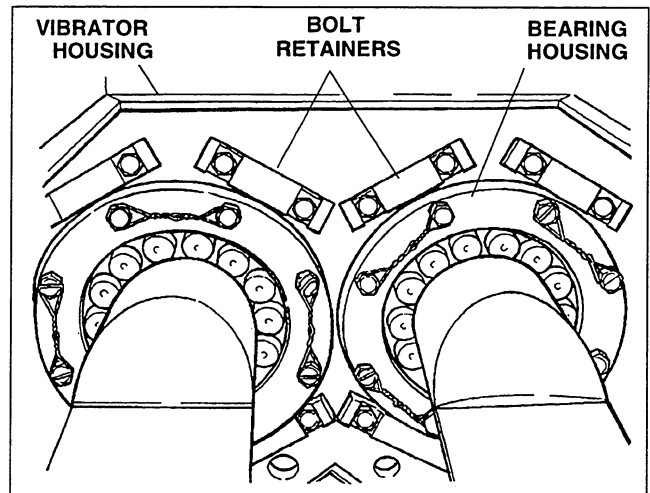

Figure 4-7. Bolt Retainers Installed
B. Secure bearing housings (6) using two capscrews (19) inserted through each of the five bolt retainers (18). From inside the vibrator housing (20), push capscrews (19) in each bolt retainer through housing (20), and out through bearing housing (6) until all are installed as shown in Figure 4-7. Lubricate the facing surfaces of nut locks (8) with grease (see Table 3-2) and place the nut locks over the ends of capscrews (19). Install nuts (7) and tighten sufficiently to secure the unit in position.